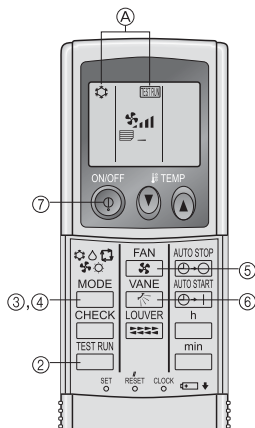

Fig. 7-7
7.2.2. Using wireless remote controller (Fig. 7-7)
- ① Turn on the power to the unit at least 12 hours before the test run.
- ② Press the **[TEST RUN]** button twice continuously.